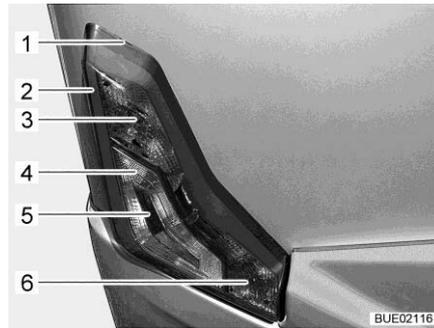

Fig. 163 Rear lights
- Insert flat tool into notch (Fig. 163,1) and carefully lever off the housing.